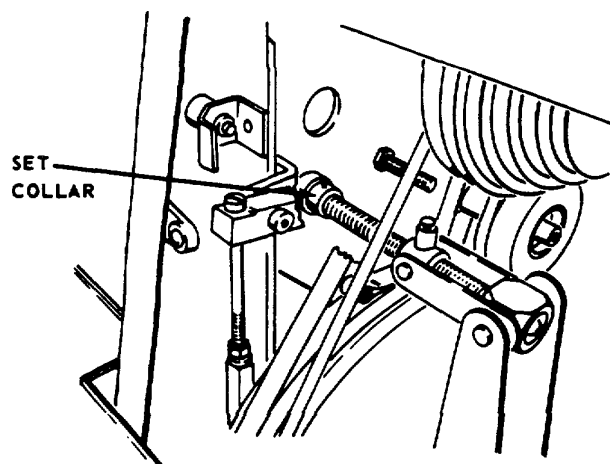

FIGURE 93
- (1) CHECK: Set Cutting Pressure Control to 3 and check Feed Dial for end play. If Honing Dial needle moves more than one or two tenths during this check, there is too much end play.
- (2) TO ADJUST: Loosen set screw in Set Collar at rear of housing (Figure 93). While lightly pushing in on Feed Dial, hold Collar against rear of bushing in housing with light finger pressure. Rotate Collar slightly on shaft to give set screw a new contact point and tighten set screw. Feed screw must rotate freely in bushing. If any binding occurs or bushing rotates with feed screw, reset Collar.